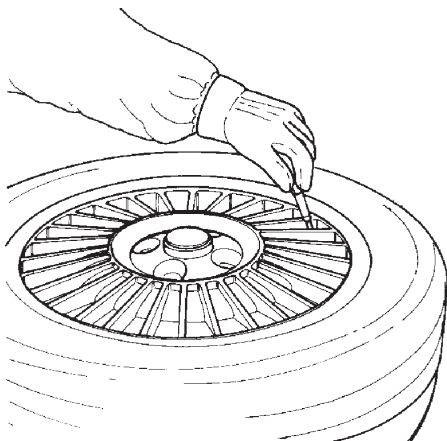

Fig. 4.1-1
A. Remove all wheel-weights from the rim. Remove the valve stem or valve stem core and deflate the tire (Fig. 4.1-1).